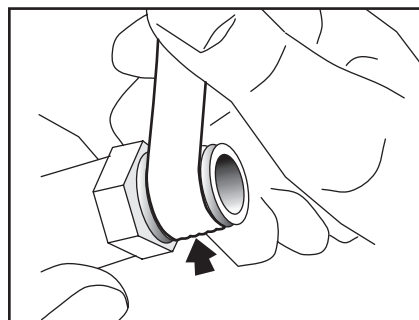

Figure 11
10. Put Teflon™ thread sealing tape on the fuse threads. The tape should be wound at least one thread above the bottom thread of the threads. (Figure 11)